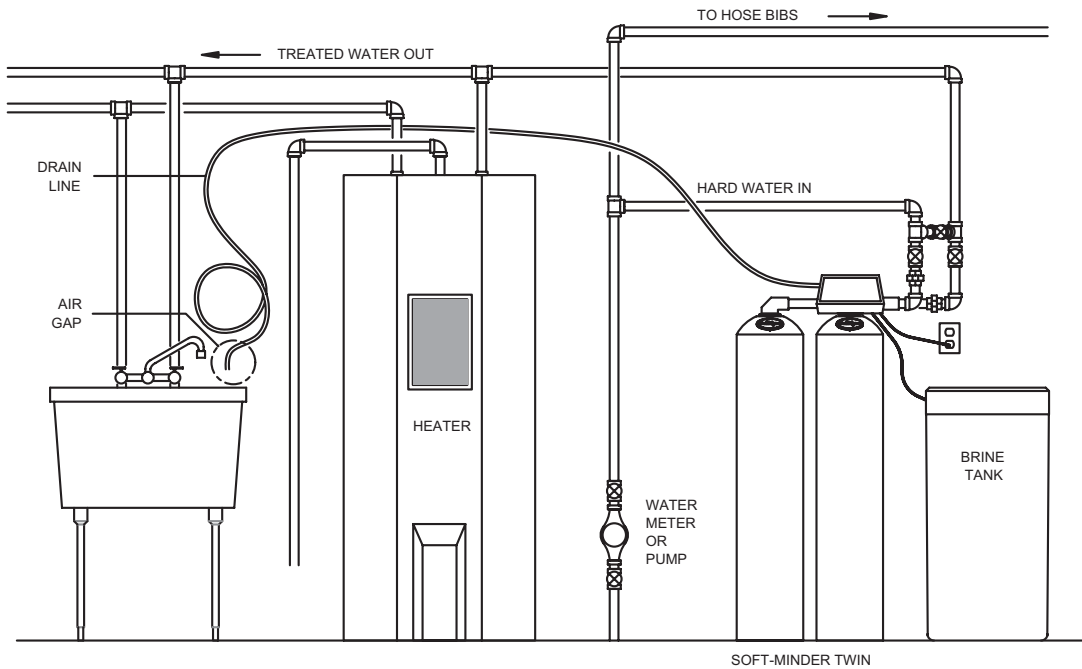

Figure 1
**Space requirements** - Allow 6-12 inches (15-30 cm) behind the unit for plumbing and drain lines and 4 feet (1.3 meters) above for service access and filling the salt container (See figure 1).